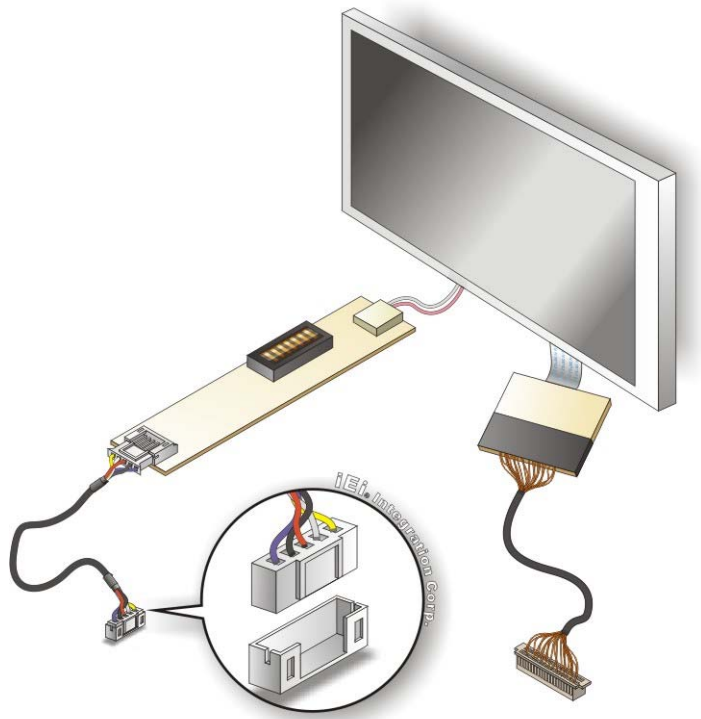

Figure 4-23: Backlight Inverter Connection
Step 4: **Connect backlight connector.** Connect the backlight connector to the driver TFT LCD PCB as shown in **Figure 4-23**. When inserting the cable connector, make sure the pins are properly aligned.